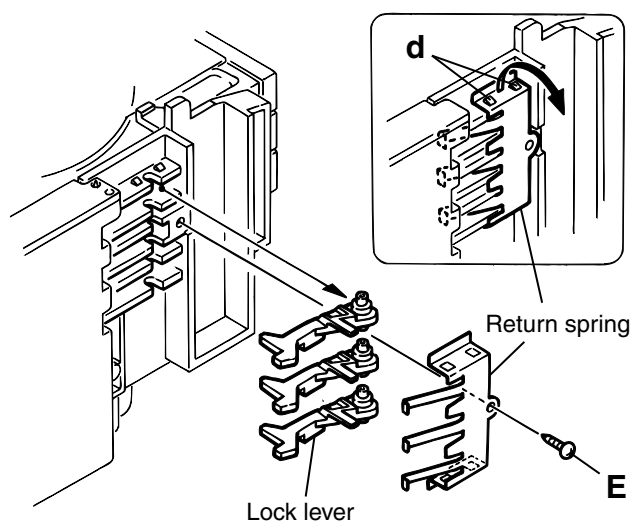

Fig.4
9. From the left side face of the chassis assembly, remove the one screw **E** retaining both of the return spring and lock lever(See Fig. 4).
10. By removing the pawl at the section "d" fixing the return spring, dismount the return spring(See Fig.4).
11. Remove the three lock levers(See Fig.4).